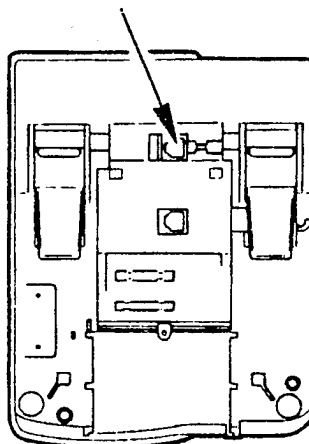

Figure 1-40 Connecting a Multiline Terminal to the System
1. Plug a telephone cord into the modular jack on the bottom side of the Multiline Terminal. (Refer to Figure 1-40 - Connecting a Multiline Terminal to the System.)